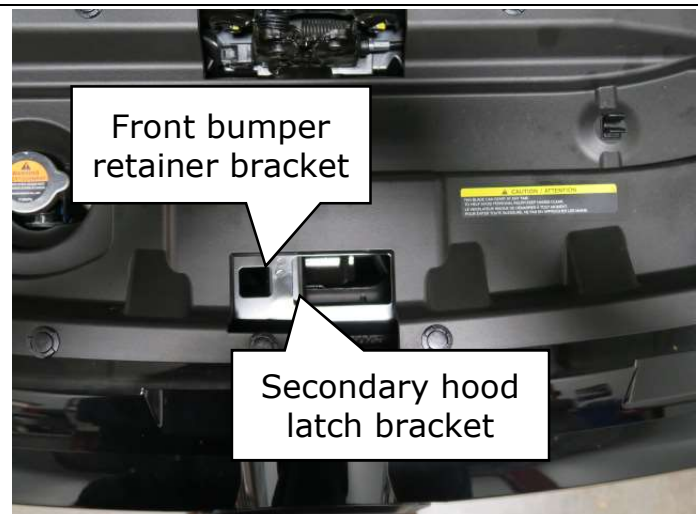

Figure 1
2. Locate the secondary hood latch bracket that is welded to the front bumper retainer bracket shown in Figure 1.